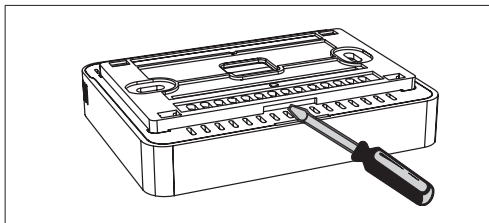

Figure 1. Removing Back Plate
1. Unpacked the CS8500 and open the case with a thin-blade screwdriver (see "Figure 1. Removing Back Plate" on page 5).